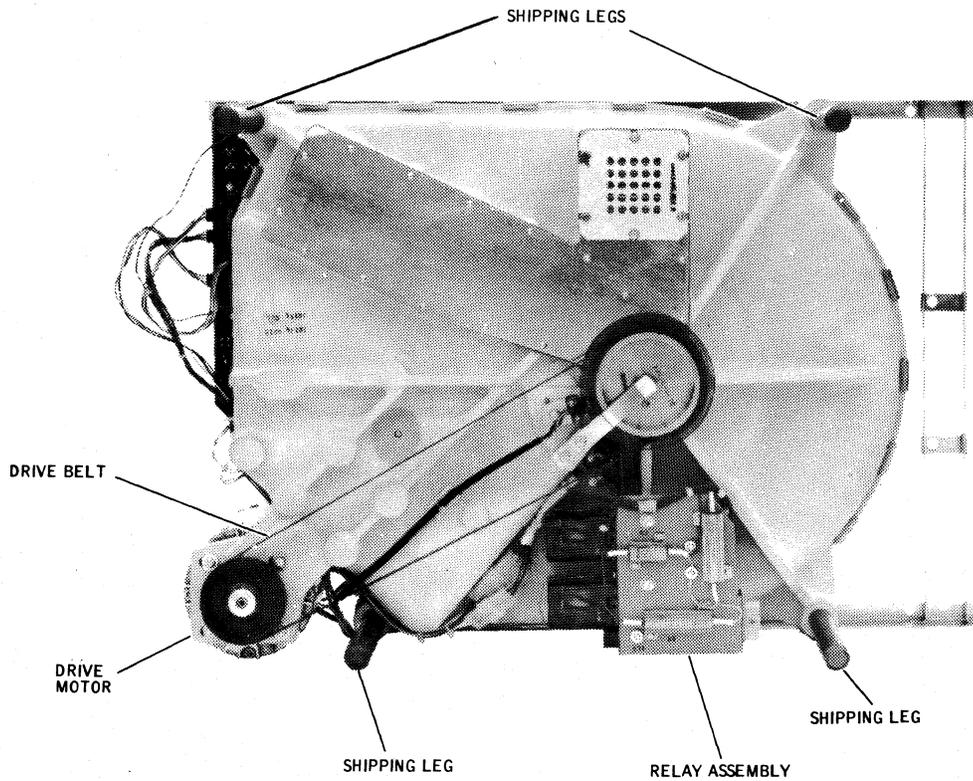

Figure 2-2. Marksman Disk Drive (Bottom View)
6. Install four shipping legs to bottom of drive (Figure 2-2).
2. Connect plug P1, to jack, J1, on relay assembly (Figure 2-2).